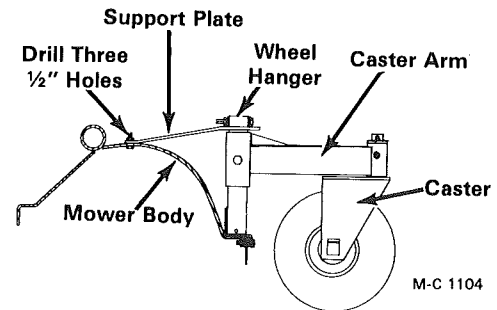

Figure 6
2. Place the support plate on the wheel hanger. Using the support plate as a guide, drill three  $\frac{1}{2}$ " holes through the mower body, see Figure 6. Remove the support plate.
4. Install the support plate. Use three  $\frac{1}{2}$ -13 x 2" capscrews, lockwashers and hex nuts to secure it to the mower body. The heads of the capscrews are to be on the inside, see Figure 6.
5. Bolt the top of the wheel hanger to the support plate with a  $\frac{1}{2}$ -13 x 5" capscrew, lockwasher and hex nut, see Figure 6.